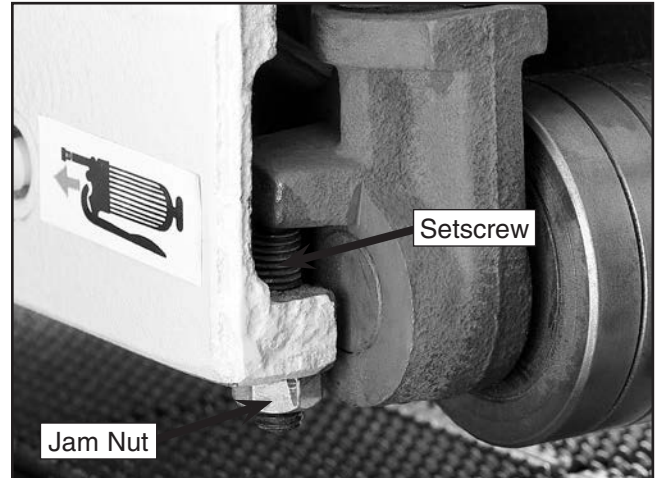

Figure 40. Setscrew for height adjustment.
5. Each pressure roller can be independently adjusted by loosening the jam nut and turning the small setscrew (**Figure 40**). Note— *Turning the setscrew clockwise, as viewed from the top, lowers the pressure roller; counterclockwise raises the pressure roller.*